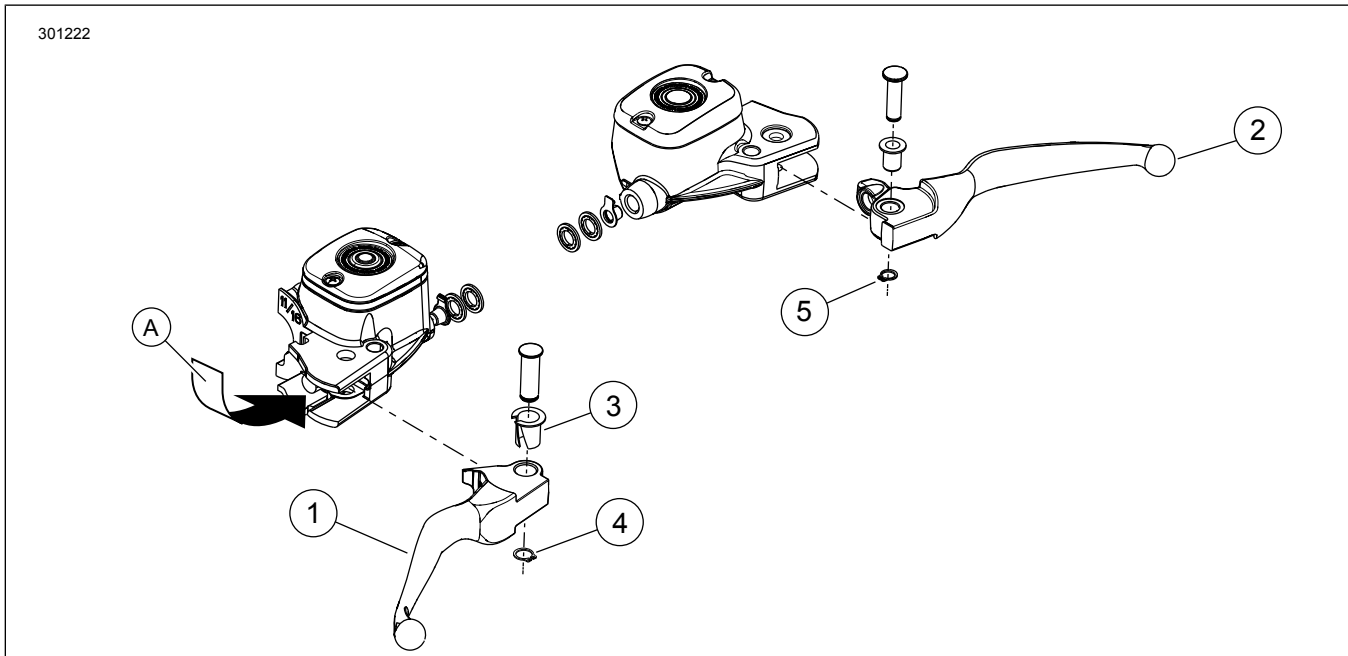

Figure 2. Service Parts: Hand Lever Kit
See Figure 2 and Table 1.
1. See the Figure 2 and the FRONT BRAKE MASTER CYLINDER section of the service manual. Remove the retaining ring (4) from the groove in the pivot pin and discard retaining ring.